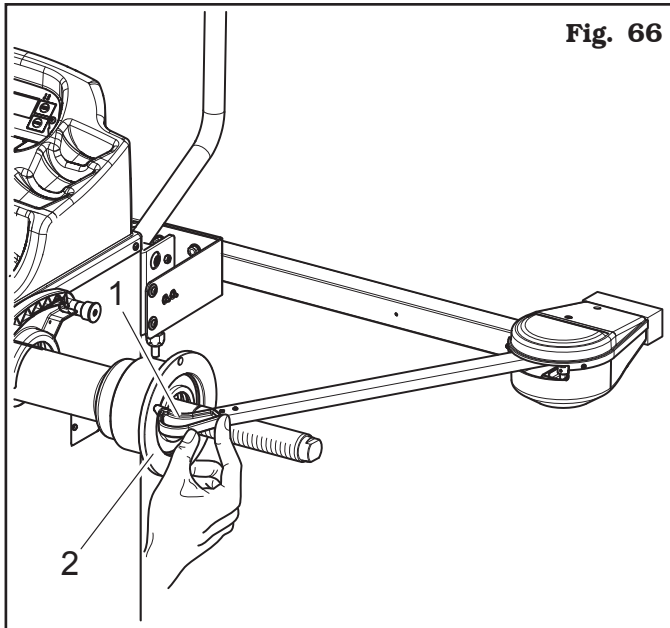

Fig. 66
Move the tip of the width measuring device (**Fig. 66 ref. 1**) in line with the outer surface of the flange (**Fig. 66 ref. 2**). The display screen D2 will show a bit value.